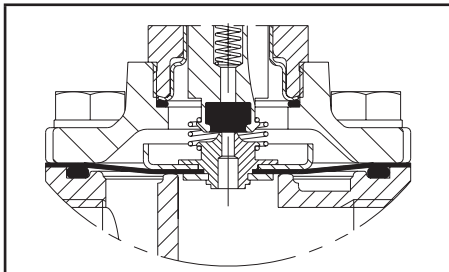

fig. 4
- **Hung-type diaphragm (Fig. 4)** :